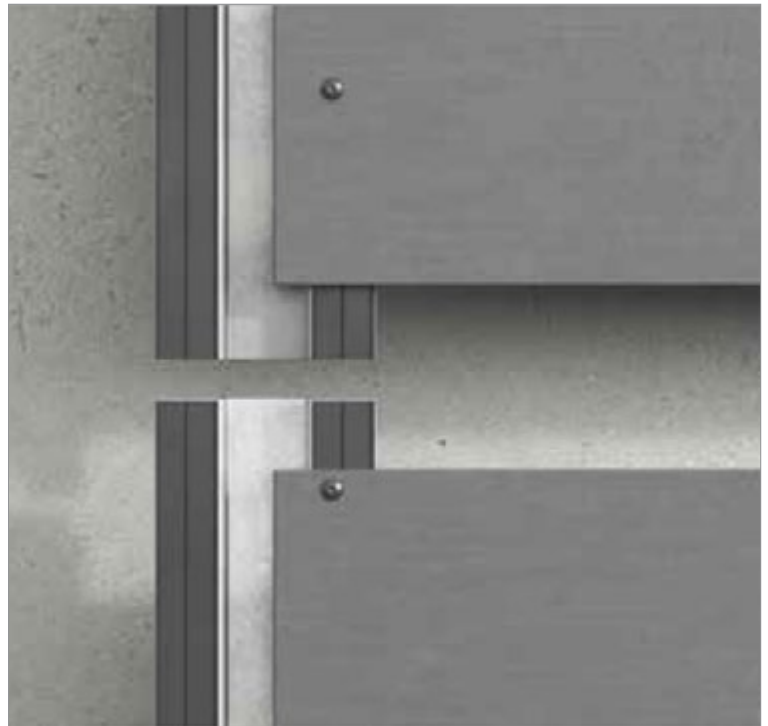

Figure 12.
- Ensure a minimum 20mm gap between the top hats (see Figure 12)